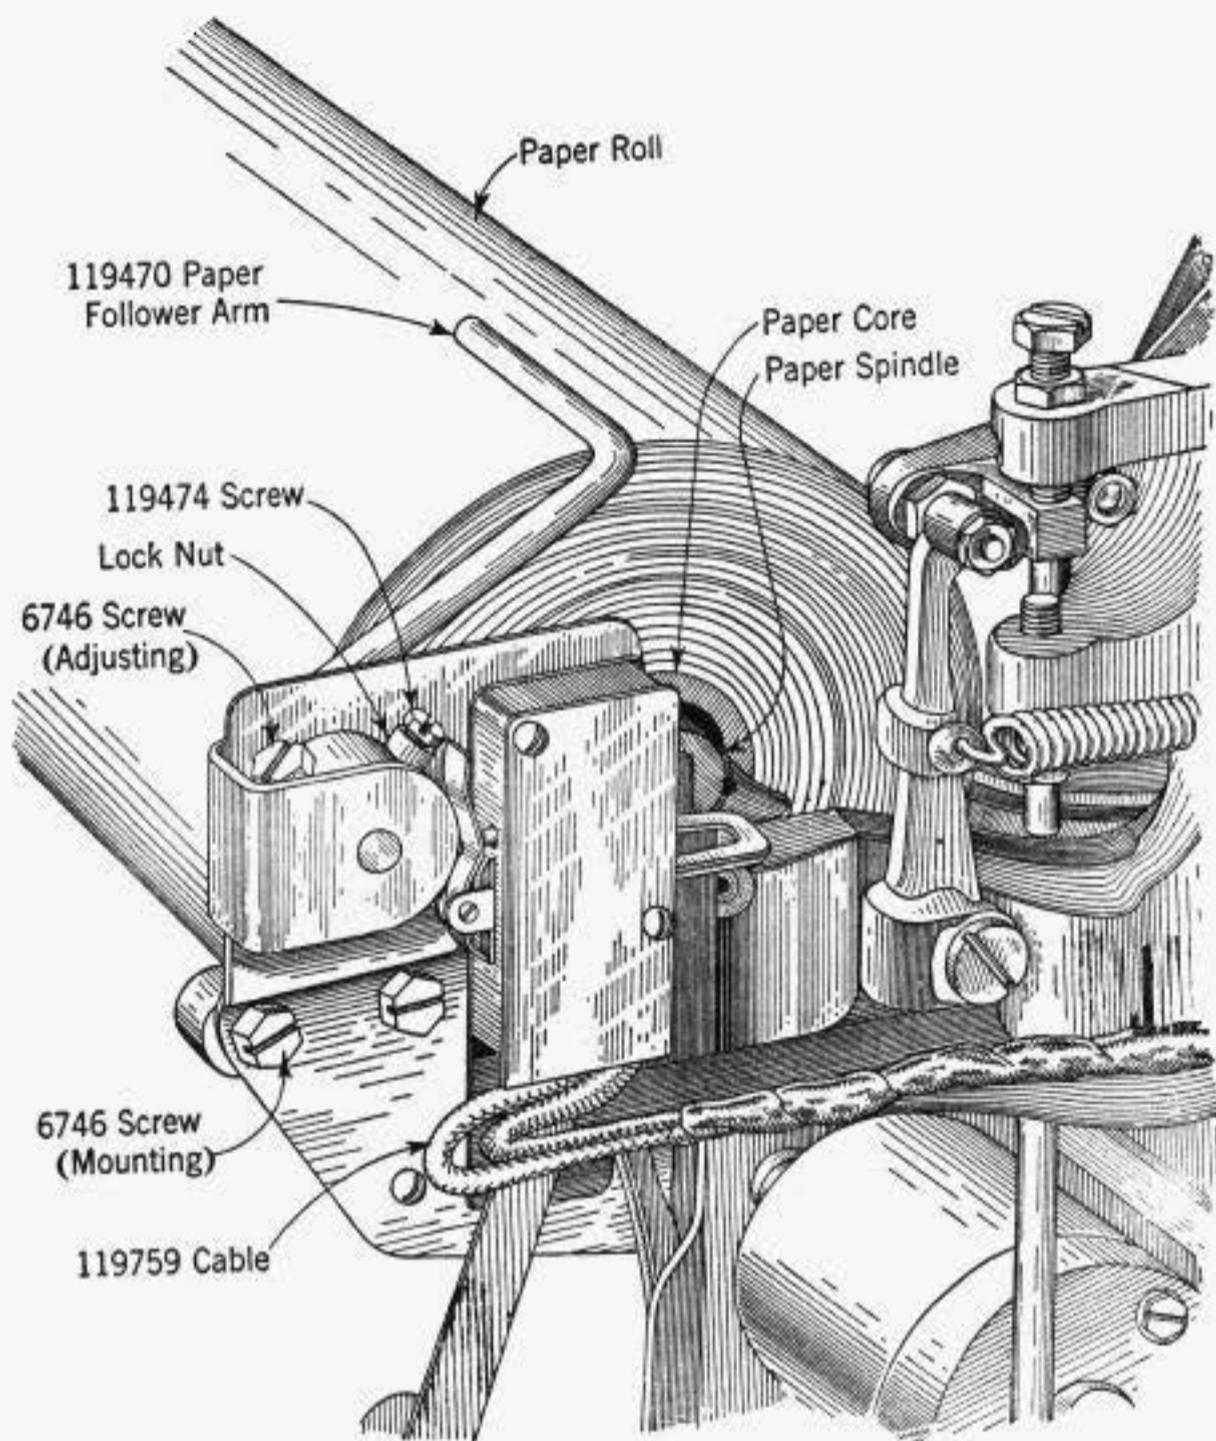

Fig. 2
2.01 Mount the TP119471 switch assembly on the TP74410 left teletypewriter frame by means of the two TP6746 screws and two TP2191 lock washers furnished using the two rear TP6-40 tapped holes as shown on Fig. 2.
### **3. ADJUSTMENTS (FIG. 2)**